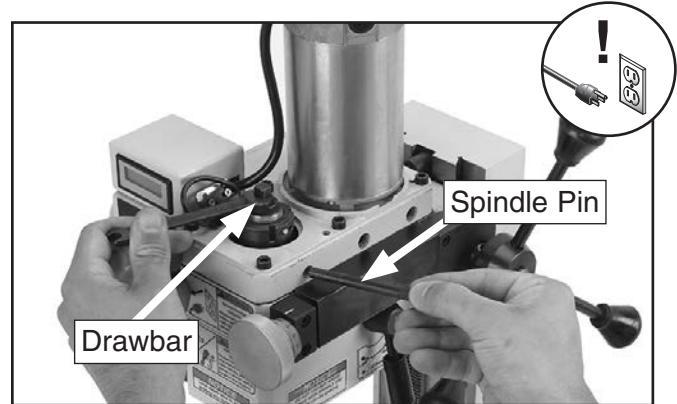

Figure 21. Components used when installing or removing tooling.
5. Secure spindle with spindle pin and tighten drawbar, as shown in **Figure 21**.